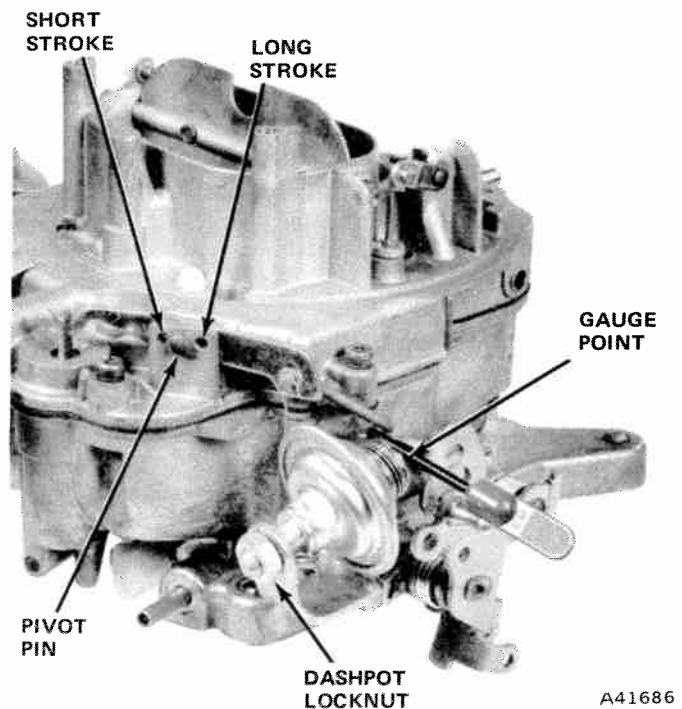

Fig. 4-76 Accelerator Pump and Dashpot Adjustment
For most driving conditions, the pump will operate satisfactorily with the pivot pin located in the specified pump link and pivot support holes. However, additional holes are provided for "tailoring" the pump stroke, if required, to correct acceleration stumble (fig. 4-76). Refer to Carburetor Service Specifications for the correct pivot location.
(1) Set throttle at curb idle position.
(2) Fully depress the dashpot stem and measure the clearance between the stem and the throttle lever as shown in figure 4-76. Refer to Carburetor Service Specifications for the correct setting.
(3) Adjust by loosening the locknut and turning the dashpot.